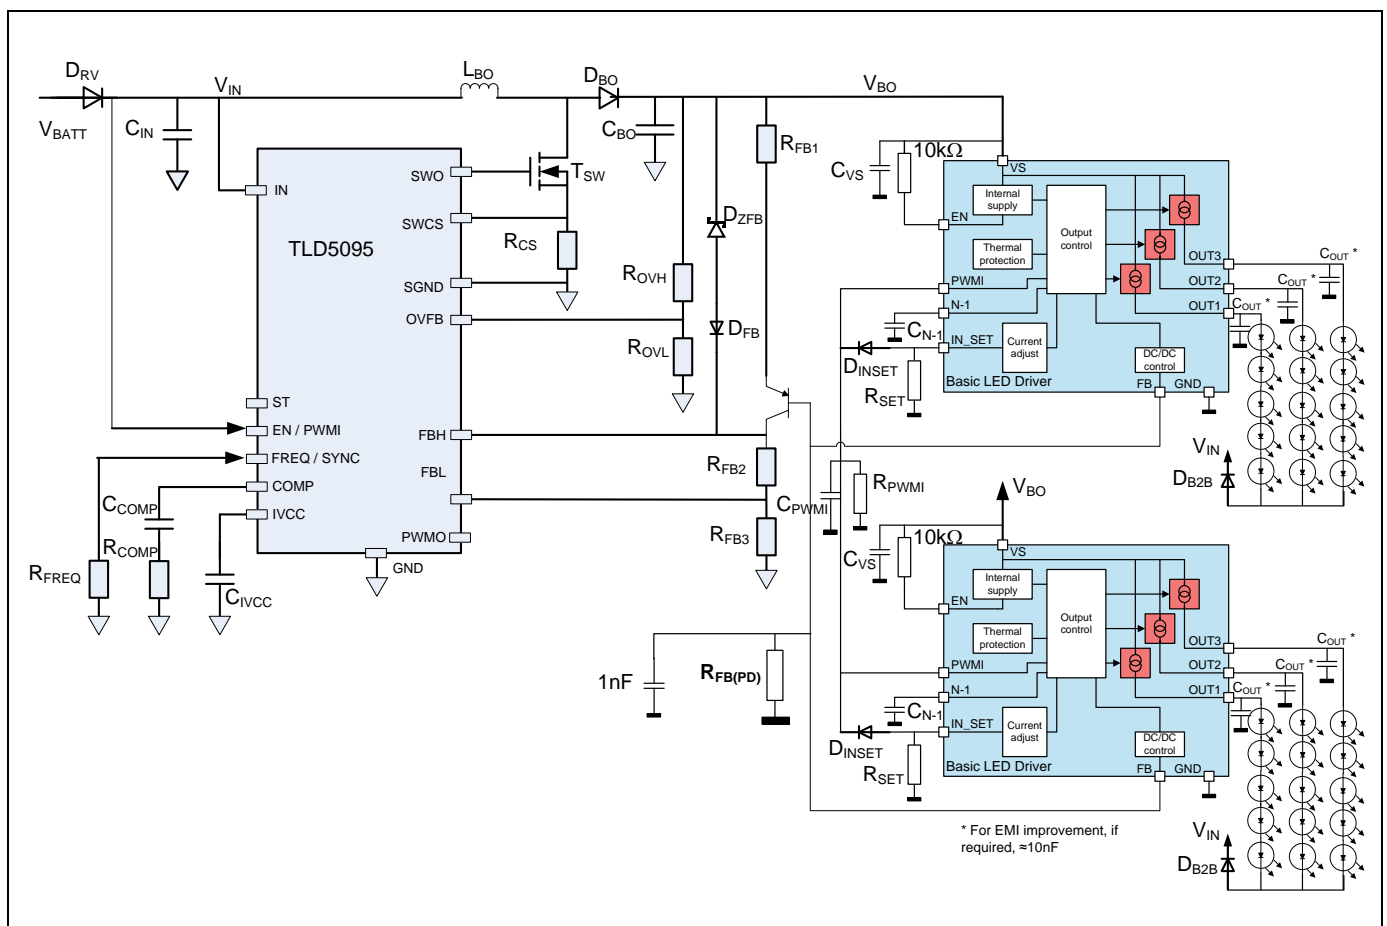

Figure 47 DC/DC control using FB pin in Boost to Battery Application Circuit (TLD1326)
- A possible application circuit using the FB pin for active voltage feedback in a boost to battery DC/DC configuration is shown in Figure 47. The calculation of the FB pin pulldown resistor $R_{FB(PD)}$ also follows.